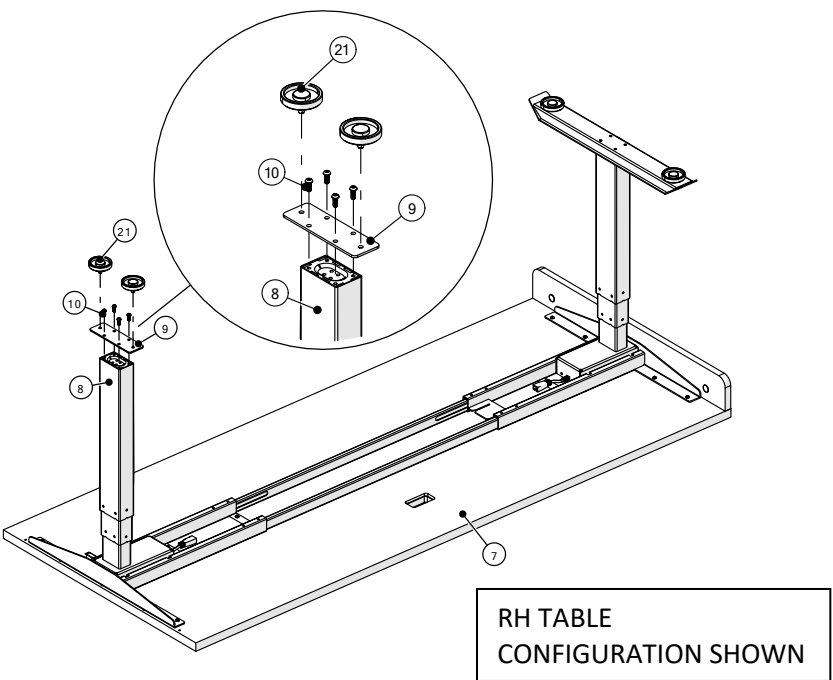

Figure 6
10. Depending on the desk configuration LH or RH, install the leg mounting plate instead of the foot provided in the box. Use the screws and glides that are provided in the box to install the foot for the leg mounting plate. Foot hardware is compatible with leg mounting plate, (Figure 6).